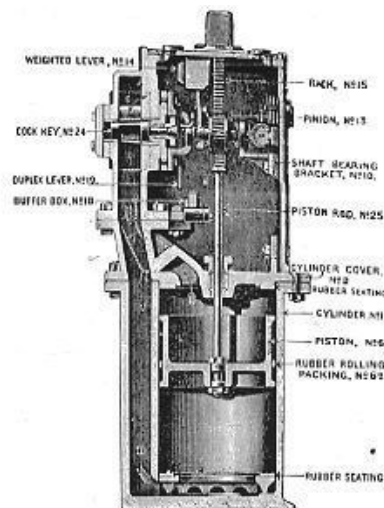
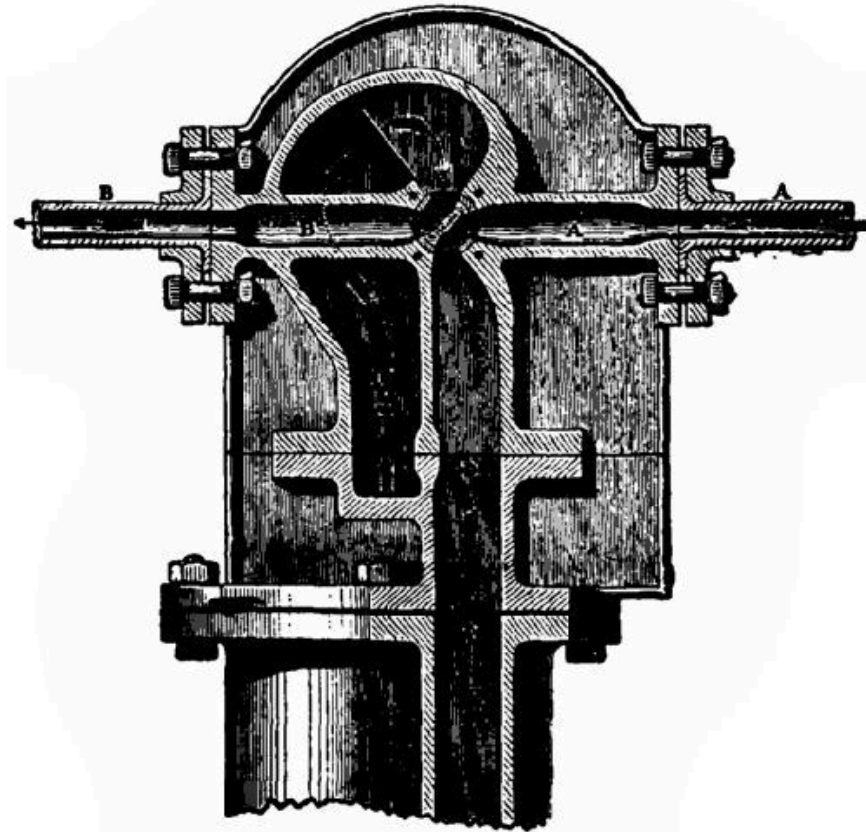

FIG. 183.
FIG. 184.
Some consumers pay a sum quarterly for the privilege of a water supply, and the water company allows them to use as much as they require. Others, however, prefer to pay a fixed amount for every thousand gallons used. In such cases, a water-meter is required to record the consumption. We append a sectional diagram of Kennedy's patent water-meter (Fig. 183), very widely used. At the bottom is the measuring cylinder, fitted with a piston, (6), which is made to move perfectly water-tight and free from friction by means of a cylindrical ring of india-rubber, rolling between the body of the piston and the internal surface of the cylinder. The piston rod (25), after passing through
a stuffing-box in the cylinder cover, is attached to a rack, (15), which gears with a cog, (13), fixed on a shaft. As the piston moves up and down, this cog is turned first in one direction, then in the other. To this shaft is connected the index mechanism (to the right). The cock-key (24) is so constructed that it can put either end of the measuring cylinder in communication with the supply or delivery pipes, if given a quarter turn (see Fig. 184). The weighted lever (14) moves loosely on the pinion shaft through part of a circle. From the pinion project two arms, one on each side of the lever. When the lever has been lifted by one of these past the vertical position, it falls by its own weight on to a buffer-box rest, (18). In doing so, it strikes a projection on the duplex lever (19), which is joined to the cock-key, and gives the latter a quarter turn.
In order to follow the working of the meter, we must keep an eye on Figs. 183 and 184 simultaneously. Water is entering from A, the supply pipe. It flows through the cock downwards through channel D into the lower half of the cylinder. The piston rises, driving out the water above it through C to the delivery pipe B. Just as the piston completes its stroke the weight, raised by the rack and pinion, topples over, and strikes the key-arm, which it sends down till stopped by the buffer-box. The tap is then at right angles to the position shown in Fig. 184, and water is directed from A down C into the top of the cylinder, forcing the piston down, while the water admitted below during the last stroke is forced up the passage D, and out by the outlet B. Before the piston has arrived at the bottom of the cylinder, the lifter will have lifted the weighted lever from the buffer-box, and raised it to a vertical position; from there it will have fallen on the right-hand key-arm, and have brought the cock-key to its former position, ready to begin another upward stroke.